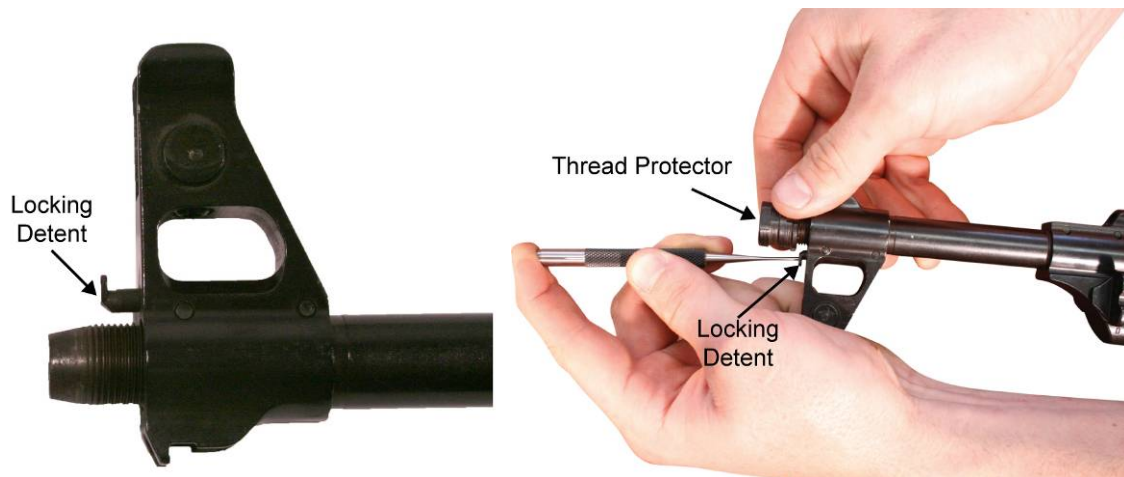

Figure 54. Installing the Thread Protector on the Muzzle.
- c. While using a punch to hold down the locking detent, turning the thread protector until it is seated tightly on the muzzle. Ensure that the locking detent is seated in one of the notches in the thread protector. Refer to Figure 54.